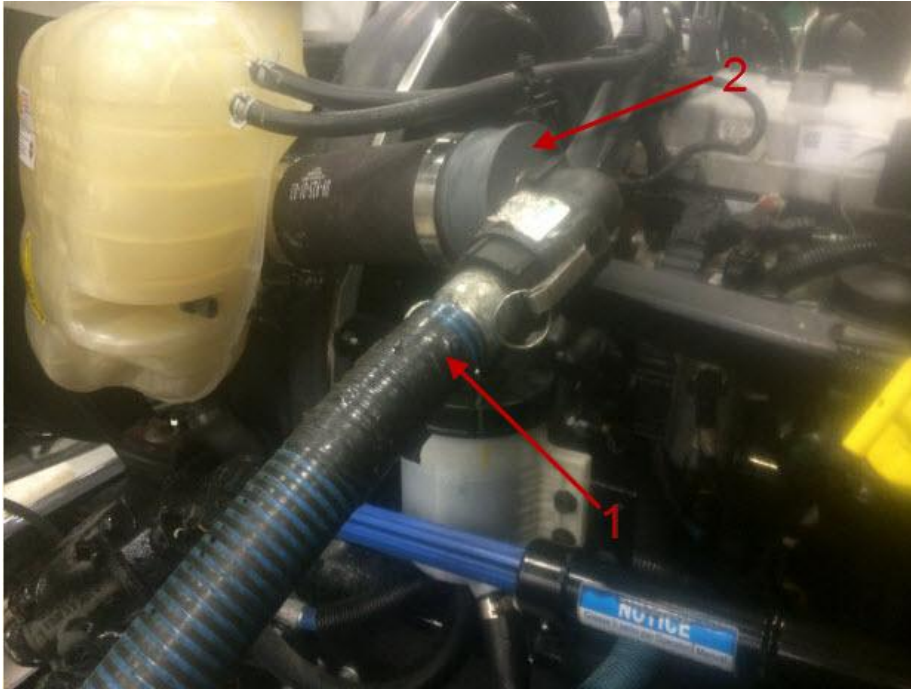

Figure 3. Outlet Adapter.
5. Connect CMS FLOW FROM PUMP hose (Figure 3, Item 1) to outlet adapter (Figure 3, Item 2).
10. Disconnect CMS FLOW FROM PUMP hose (Figure 3, Item 1) from outlet adapter (Figure 3, Item 2).